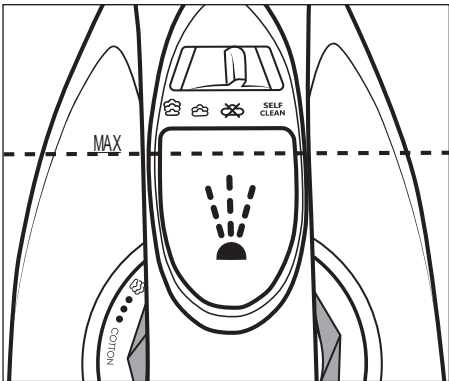

Fig. 1
- 1) Make sure that the temperature control **⑥** is set to the position **MIN**.
- 2) Hold the iron in your hand at an angle and open the lid of the filler opening for the water tank **↙ ②**.
- 3) Use the measuring cup **①** to fill the water tank **↙ ②** up to no more than the **MAX** marking (see fig. 1).